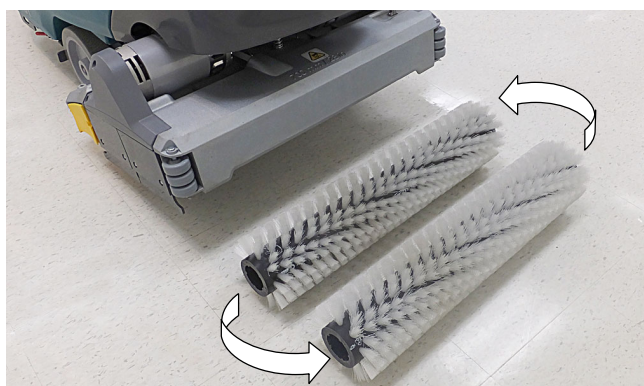

FIG. 111
3. Cylindrical brushes - Rotate brushes from front to rear (Figure 111). Replace brushes when they no longer clean effectively.